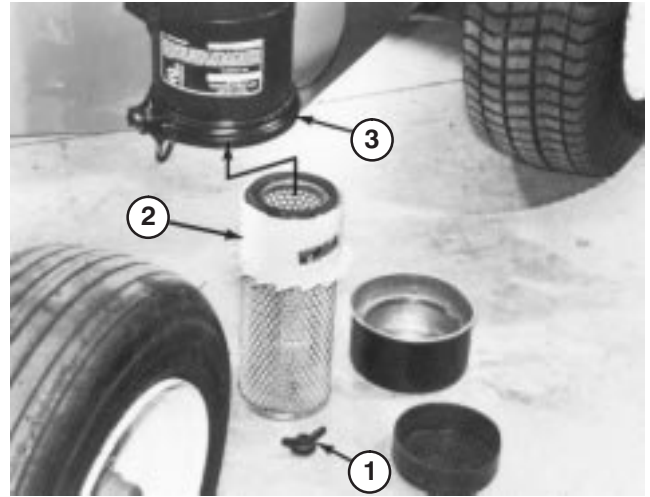

Figure 40
2. Remove wing nut w/gasket and slide filter element out of air cleaner body (Fig. 40).